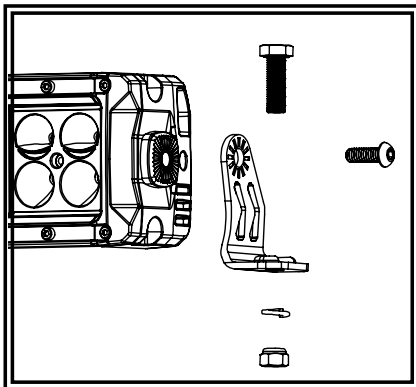

Figure 3
- Loosely secure the end brackets to the lightbar with the head bolts as shown in FIGURE 3.